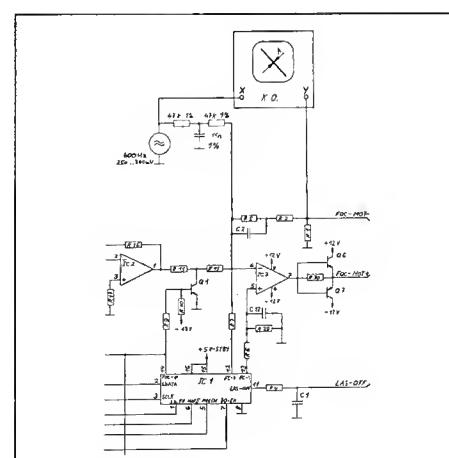

Fig. 4.16
- Connect AF generator to the X input of an oscilloscope and via an R-C-R element (according to Fig. 4.16) to pin 6 of IC2 (on 1.769.310/315), ($f=600 \text{ Hz } \pm 5 \text{ Hz}$, $U=250 \text{ to } 300 \text{ mV RMS}$).